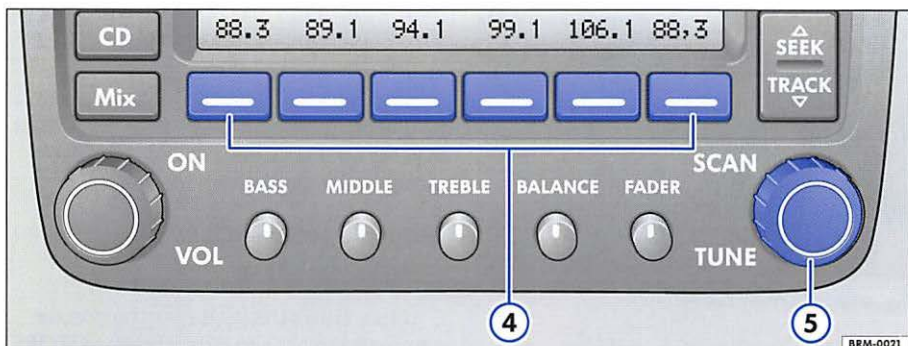

Fig. 5 Station Preset Buttons and SCAN/TUNE Knob
⇒ fig. 5 ④ and ⑤.
- Press the **SCAN/TUNE** button $\Rightarrow$ page 10, fig. 5 **5** briefly to scan upward to the next higher frequency. Scanning stops at the next good quality station received. After about 10 seconds, the radio will scan to the next station. **SCAN** will appear in the display after you press this button.
- After enabling, turn the **[SCAN/TUNE]** button (⇒ page 10, fig. 5 (5)) until channel 000 is displayed
- While in the desired channel, hold down the station preset button ⇒ page 10, fig. 5 (4) on which you want to save the station until you hear an audible signal and the radio sound is muted. The channel is now preset on this button. The preset station will appear underscored in the display.